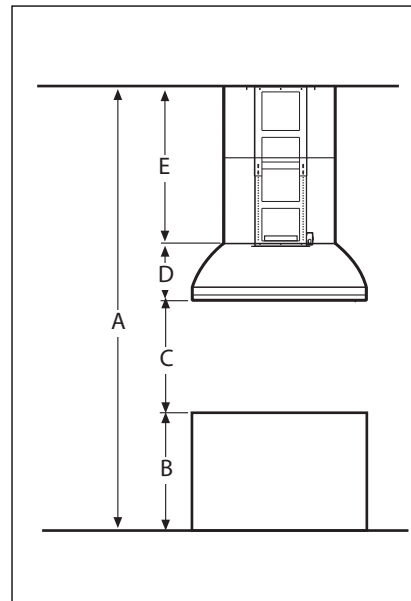

FIG.1
A typical hood installation is shown below in Figure 1. When installed with the IVCK chimney accessory kit, the hood can be installed at a height of 30" to 36" in kitchens with ceiling heights ranging from 8-1/2 to 10 feet. Installations outside this range will require custom framing. Consult a qualified installer for a custom framing solution.
See Figure 1.
See Fig. 1. Do not use duct smaller than specified.
4. Install 1/2" electrical conduit in location marked on template and extend length  $E - 3\frac{1}{8}"$  from ceiling (use formula in Fig. 1).